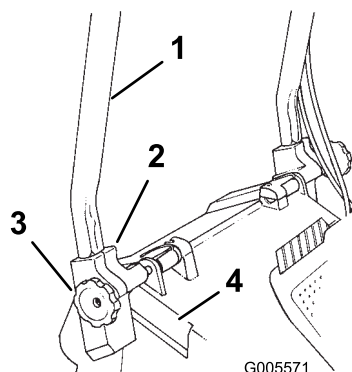

Figure 3
1. Loosen the knobs on the mounting brackets (Figure 3).
3. Slide the handle ends into the holes in the mounting brackets until the handle ends fully seat into the brackets (Figure 3).
4. Rotate the handle and the mounting brackets rearward until the brackets fit securely into the housing pockets (Figure 3).